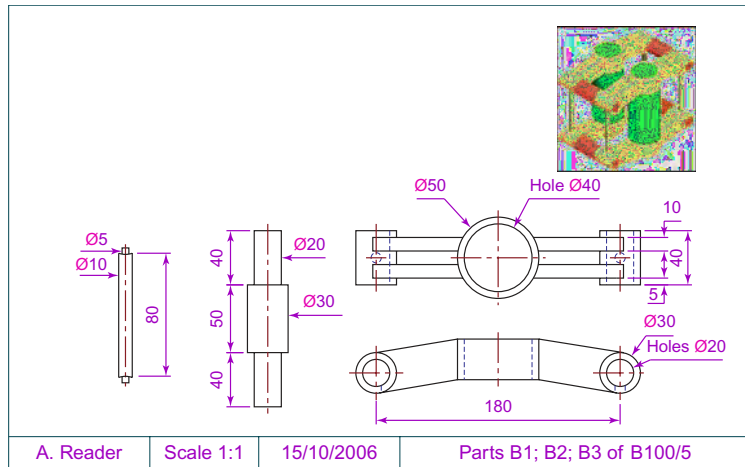

Fig. 19.5 Example – Raster image in a drawing
Example – Raster image in a drawing (Fig. 19.5)
10. Following the details given on page 380 attach **Fig05.bmp** to the drawing at a suitable position (Fig. 19.5).
2. Place the image in position in the drawing area. In Fig. 19.5 the orthographic projections have been placed within a margin and a title block has been added.
1. Open a 4-viewport screen of the assembled 3D model shown in the first example (Fig. 19.5).
1. Open the orthographic drawing with its raster image Fig. 19.5.